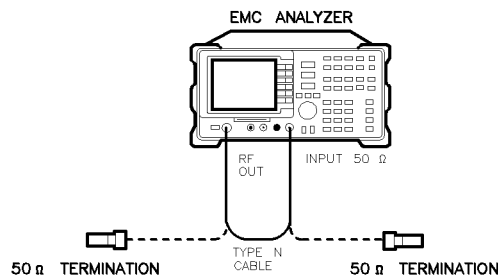

Figure 2-83. Tracking Generator Feedthrough Test Setup, HP 8591EM
1. Connect the Type N cable between the RF OUT 50 Ω and INPUT 50 Ω connectors on the EMC analyzer. See Figure 2-83.